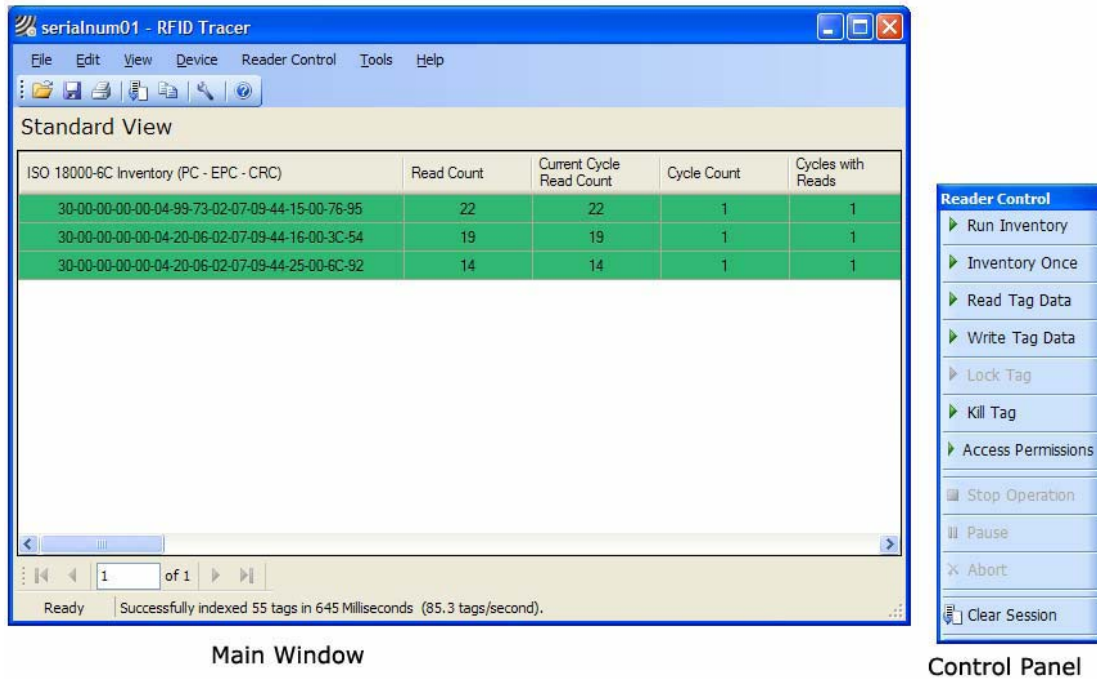

Figure 10 Main Window and Control Panel
Step 1: Click “Run Inventory” at Control Panel, as shown in Figure 10.